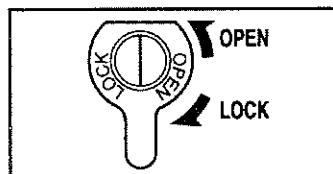

Fig.9
3. Turn the quick lock to the OPEN position as shown in Fig. 9.